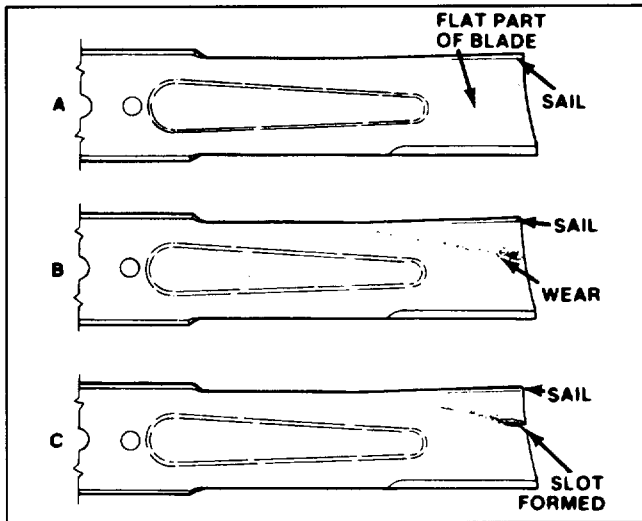

Figure 35
(Fig. 35–36)
2. Examine cutting ends of the blade carefully, especially where the flat and curved parts of the blade meet (Fig. 35–A). Since sand and abrasive material can wear away the metal that connects the flat and curved parts of the blade, check the blade before using the machine. If wear is noticed (Fig. 35–B), replace the blade: refer to Removing Cutter Blade.